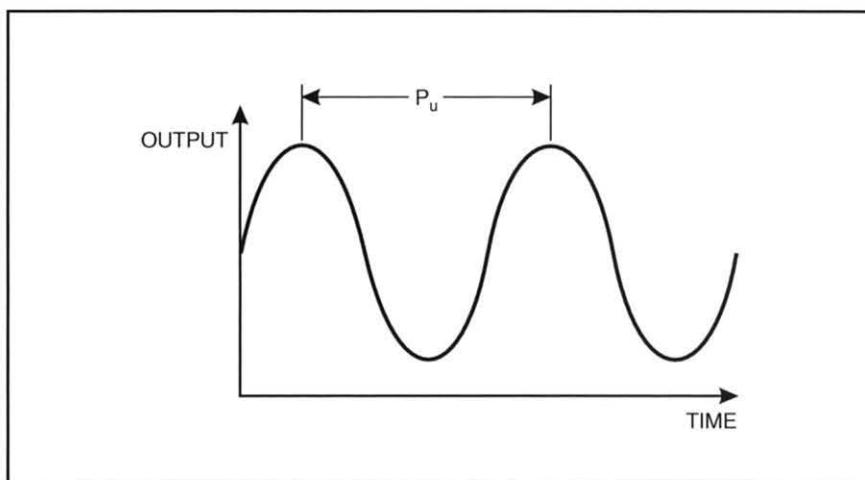

Figure 59. Measuring Ultimate Period
- Determine the ultimate period by measuring one cycle of oscillation, as figure 59 shows.